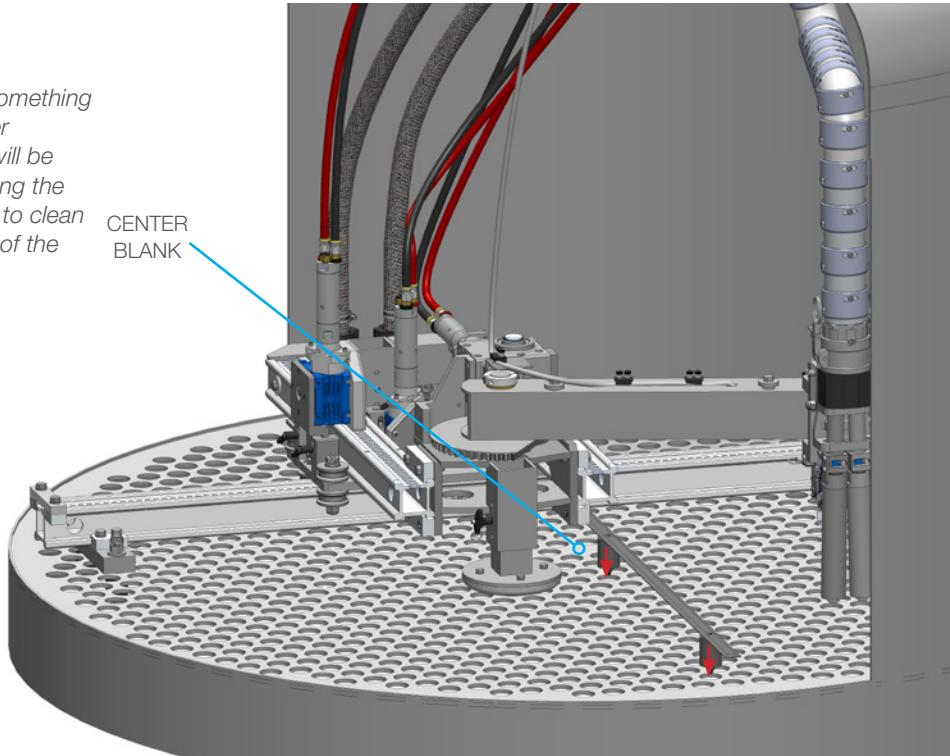

FIGURE 61
1. Locate the center of the Tube Face. On some tube faces, the center will be a blank hex. (**Figure 61**)